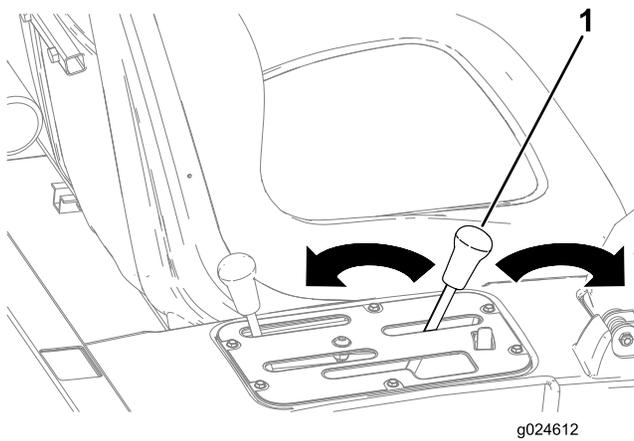

Figure 18
3. Move the lever backward to raise the cargo box to the desired position. (Figure 18).
4. Move the lever forward to lower the cargo box (Figure 18).